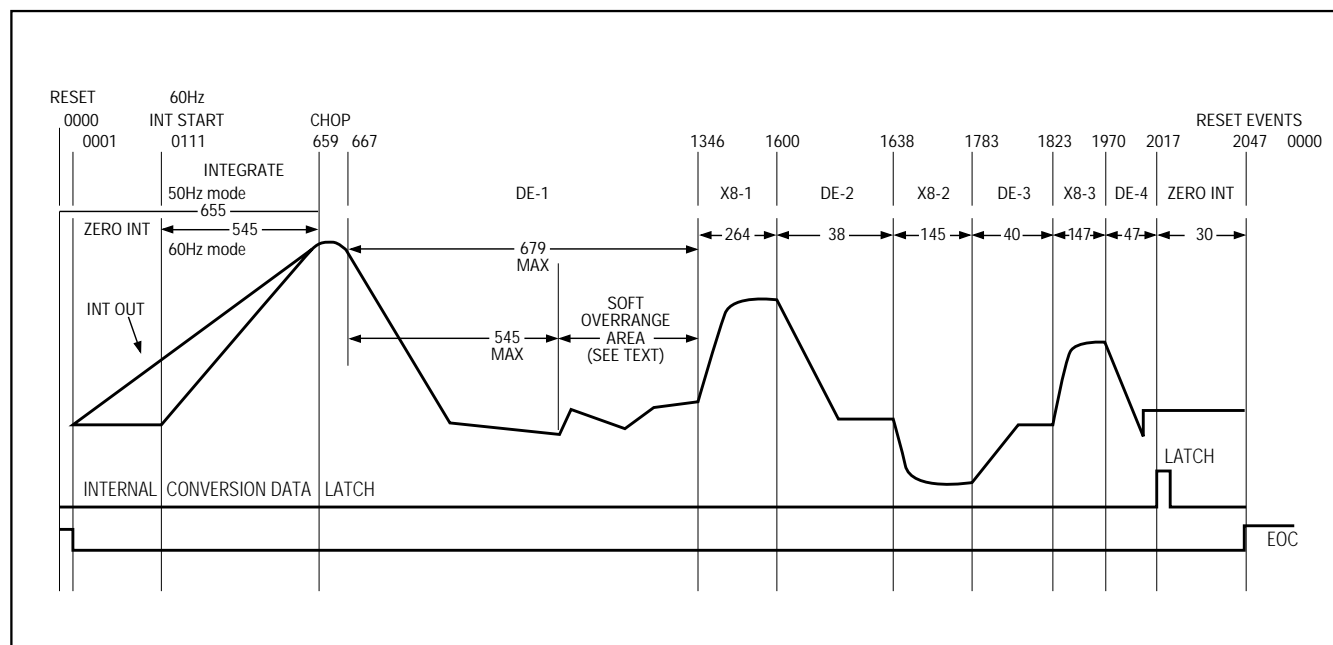

Figure 10. Conversion Timing (Negative Input Shown)
- 2) Poll either the EOC status register bit or the EOC line to determine conversion end and start time for the next conversion. EOC becomes 1 at conversion end at count 0000 of the conversion counter (Figure 10).
The MAX132 has two overrange levels (Figure 10 and Table 4). The first level is a soft overrange that is set by the user. Overage is arbitrarily set at a value, preferably less than the 279,040 (including any zero offset) raw counts soft limit. A nonlinearity step of about 64 counts occurs at raw count 279,040 and again at 330,240 counts.
This process of measuring and accounting for the residue can be repeated for the successively smaller errors remaining after each deintegration. (Deintegration is simply an integration of V_{REF} , with polarity chosen so the integrator output ramps toward zero.) The MAX132, for example, executes three cycles in which the residue is inverted, multiplied by eight, and deintegrated (Figure 10).
The zero-integrate phase zeros out the integrator to prepare for the next integration (Figure 10). This phase occurs at the beginning and end of each conversion. At power-up, or in the hold mode prior to a conversion, the MAX132 continues to zero integrate until a conversion starts. When a conversion starts in 60Hz mode, another 111 clocks of zero integrate are completed before the beginning of a conversion. In 50Hz mode, only one additional zero integrate is performed before the conversion starts. An additional 20 clocks of zero integrate occur at each conversion end.